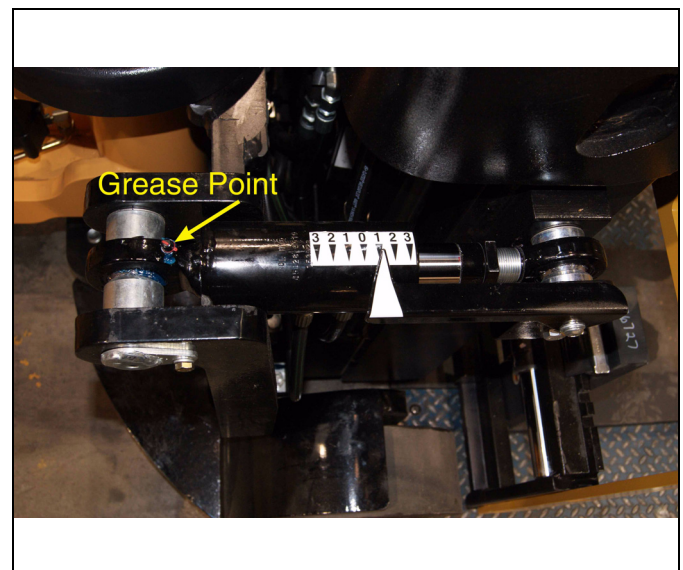

Figure 6-1
3. Grease clevis fitting on end of tilt cylinder until fresh grease is squeezed from the clevis. (See Figure 6-1).